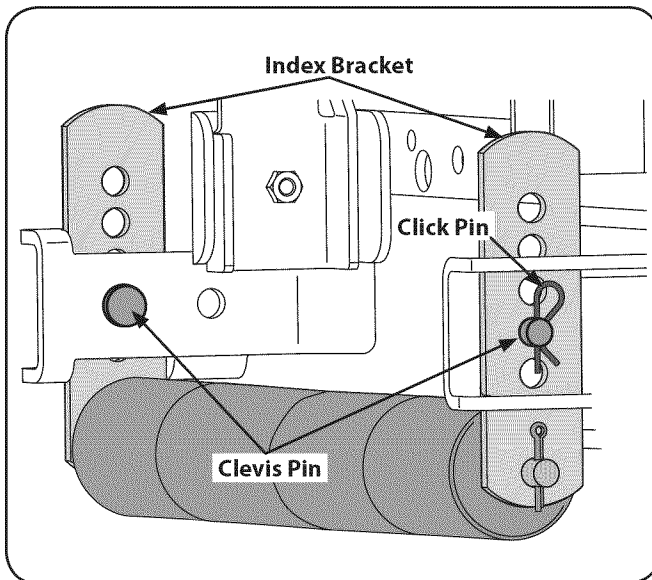

Figure 6-8
1. While supporting the roller assembly, remove click pin and withdraw the clevis pin from both the left and right roller index brackets. See Fig. 6-8.
3. Align the nearest index bracket holes with the holes in the deck mounting brackets. Insert the clevis pins through the deck brackets and the index brackets and secure with the click pins. See Fig. 6-8.